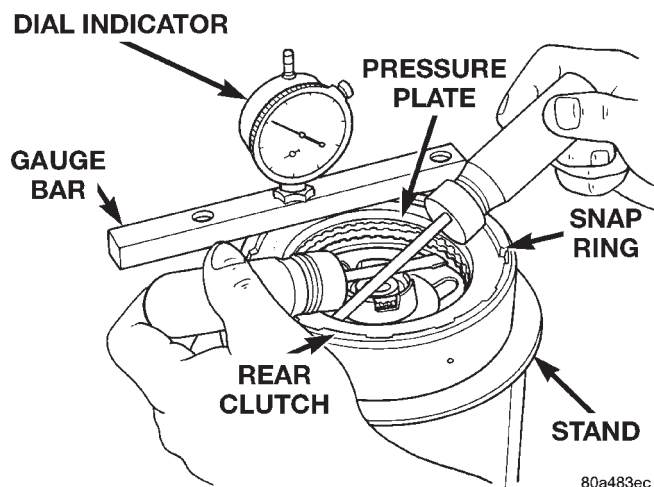

Fig. 143 Checking Rear Clutch Pack Clearance
(13) Install top pressure plate.
(14) Install selective snap ring. Be sure snap ring is fully seated in retainer groove.
(15) Using a suitable gauge bar and dial indicator, measure clutch pack clearance (Fig. 143).
(a) Position gauge bar across the clutch drum with the dial indicator pointer on the pressure plate (Fig. 143).